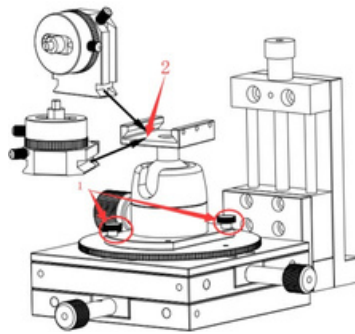

Figure 2
- Fix the ball head on the round platform by hand screw. (Figure 2)
- Put the clamp holder slider on the guide rail (can be installed in different directions as needed). (Figure 2)